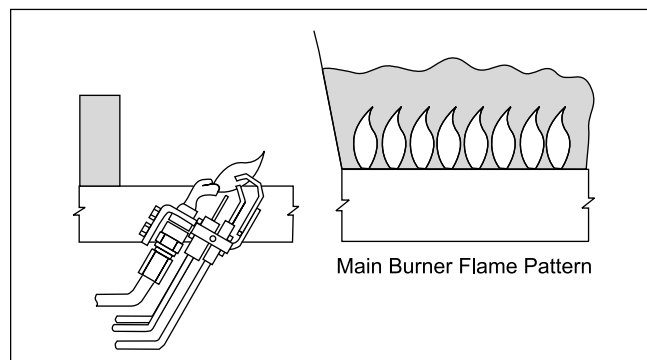

Figure 15. Flame Patterns.
6. Once the heater is running, check the appearance of the burner flames (see Figure 15). The burners are located behind a cover on the front of the unit (see Figure 2). If the flame has “sooting” tips, check for debris near the orifices. If the orifices are plugged, call a service technician to correct the problem.